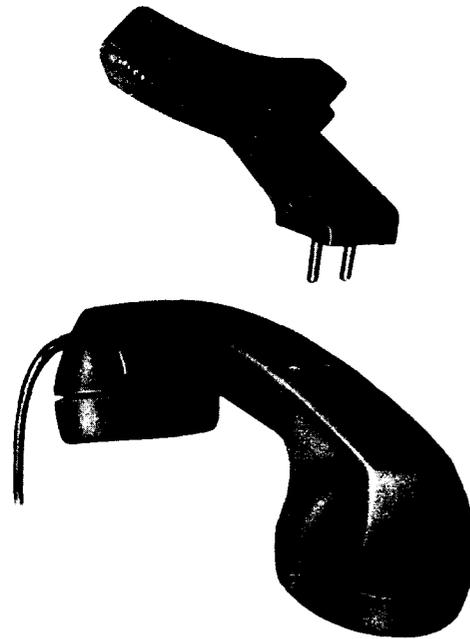

Fig. 7—G4-Type Handset Showing Shoulder Rest Assembly
2.14 The G4AR (MD) and G4B handsets consist of T1 transmitter units, U3 or LB1 receiver units, and H4CJ cords mounted on a handle having two holes for mounting a shoulder rest (Fig. 7). The G4BM is similar to the G4B except the G4BM is equipped with a 616W jack to accept the plug-ended H4DU handset cord which must be ordered separately. The shoulder rest is shipped as a loose item and can be installed to fit either the left or right shoulder.